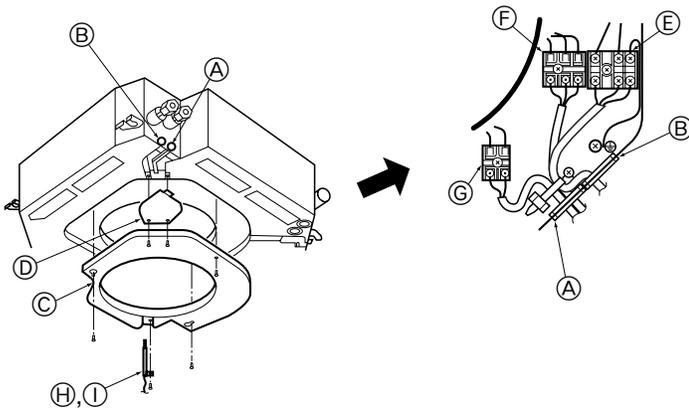

Fig. 6-5
6.3. Wiring connection (Fig. 6-5)